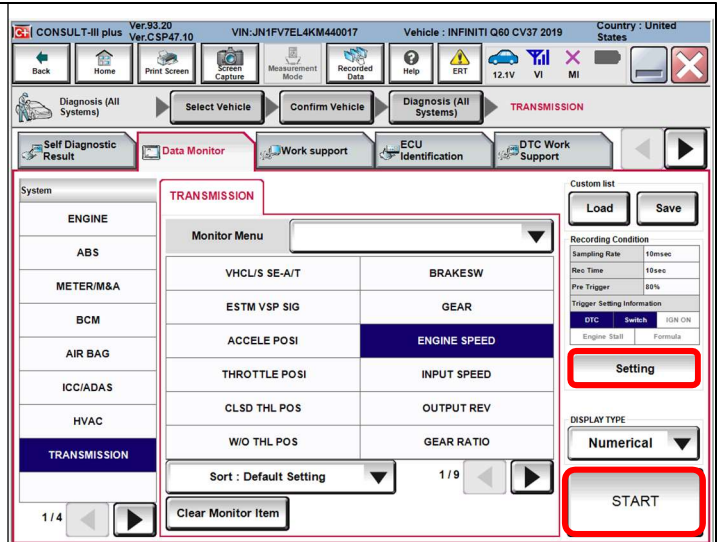

Figure 6
8. Select the items listed below to be monitored. (Figure 6)
- Select "Setting" (Figure 6)
10. Select Start. (See Figure 6)